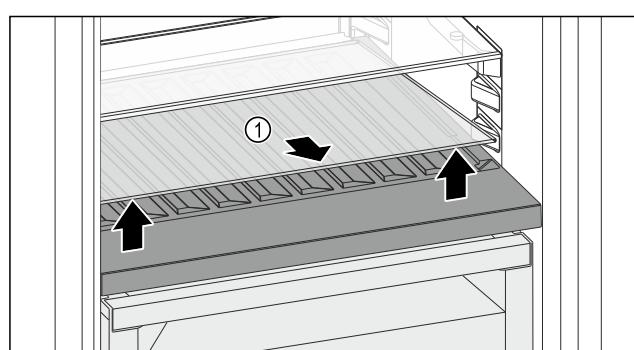

Fig. 103
► Lift the glass shelf Fig. 103 (1) at the front and remove.
► Store the glass shelf Fig. 103 (1) in a safe place outside the appliance.